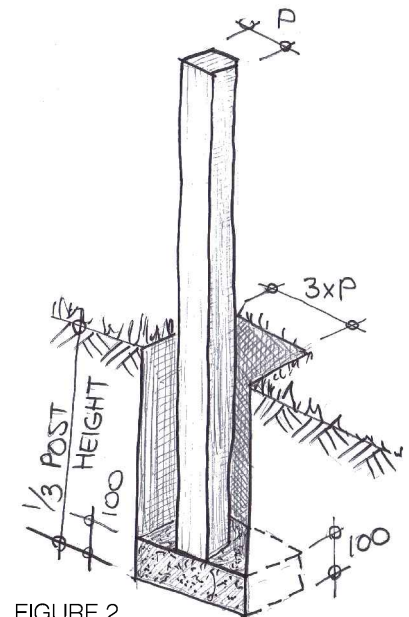

FIGURE 2
STEP 2 DIGGING HOLES (Figure 2)